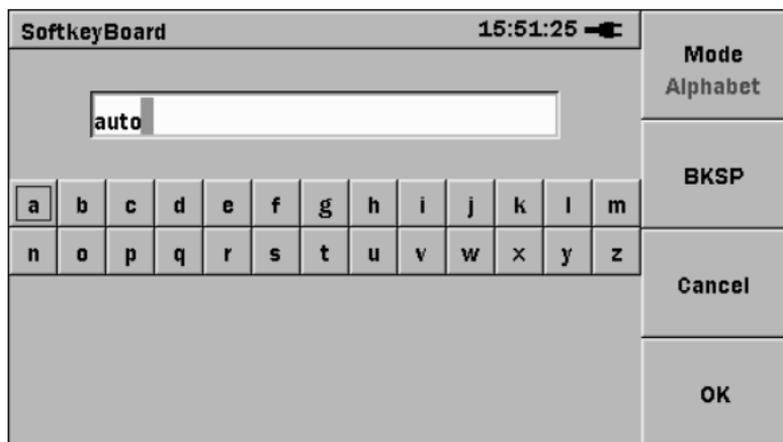

Figure 4-7: SoftkeyBoard – Alphabet mode
4. Highlight the **Filename Prefix** field and then press the **Set key**. The SoftkeyBoard screen appears (see Figure 4-7 on page 4-11):